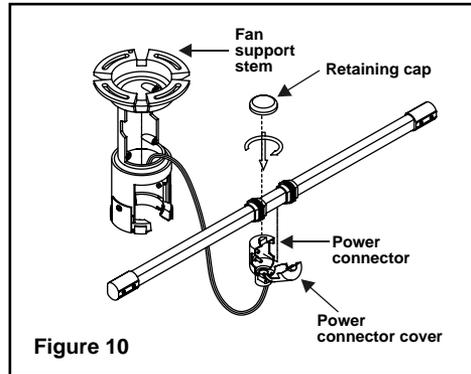

Figure 10
2. Remove the retaining cap on the power connector. Open the power connector cover and insert the flex rail into the power connector cover. Replace the retaining cap, making sure the connection is secure. (Fig. 10)